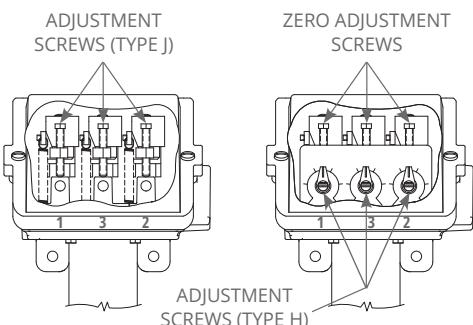

Figure 2
Type "J" controls have an internal screw adjustment and type "H" have internal calibrated dial and pointer (see Figure 2).
2 Adjust set point by turning adjustment screw clockwise to raise set point, or counterclockwise to lower set point (see Figure 2). When making adjustments, do not exceed the proof pressure rating on nameplate as this may cause a shift in set point.
2 Adjust set points by turning adjustment screw clockwise to raise set points, or counterclockwise to lower set points (see Figure 2). When making adjustments, do not exceed the proof pressure rating on nameplate as this may cause a shift in set points. **NOTE:** On J402 & J402K models, either switch #1 or #2 may be set high (except for models 520-535 – see special instructions). On J403 models, the middle switch - switch #3 – must always be set to the highest set point.
2 Adjust each set point by turning adjustment screw and pointer to desired value on scale (see Figure 2). Scale division for models are noted in product datasheet.
4 If recalibration is required, connect device to a calibrated pressure gauge. Follow instructions in step 2 until switch(es) transfer. If the set point(s) chosen on the dial(s) does not match the pressure gauge, turn each zero adjustment screw (see Figure 2) clockwise to raise the pressure or counterclockwise to lower the pressure until the dial(s) and gauge match.
- ① Determine rise or fall set point or set points and deadband.
- ② Adjust each **fall** set point by turning the adjustment screw clockwise to raise each set point or counterclockwise to lower each set point (see Figure 2). The **fall** setting is constant.
- ③ Adjust each **rise** set point (and deadband) by turning the adjustment wheel on the snap switch counterclockwise to raise each set point (and widen deadband) or clockwise to lower each set point (and narrow deadband).